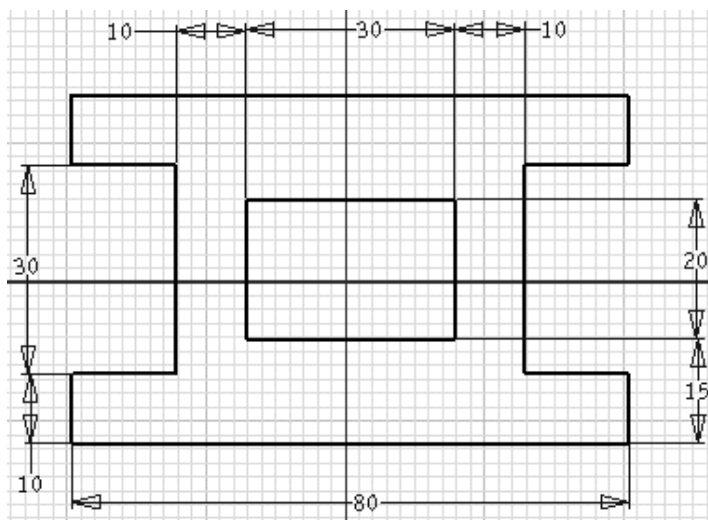

Figure 3-47 Sketch after adding dimensions
- c. Add required constraints and dimensions to complete the sketch, refer to Figure 3-47.
You will notice that the length of the line is modified to 80 units. Also, the length of line 7 is also modified because of the **Equal** constraint (refer to Figure 3-47).
10. The sketch, after applying all dimensions and constraints, should look similar to the one shown in Figure 3-47.